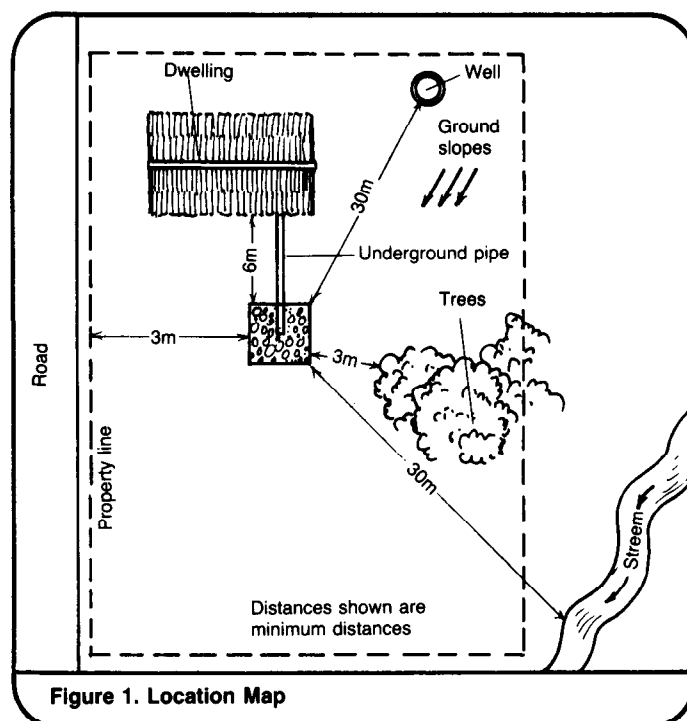

Figure 1. Location Map
1. Location map, similar to Figure 1, showing the correct location of the washwater disposal system.